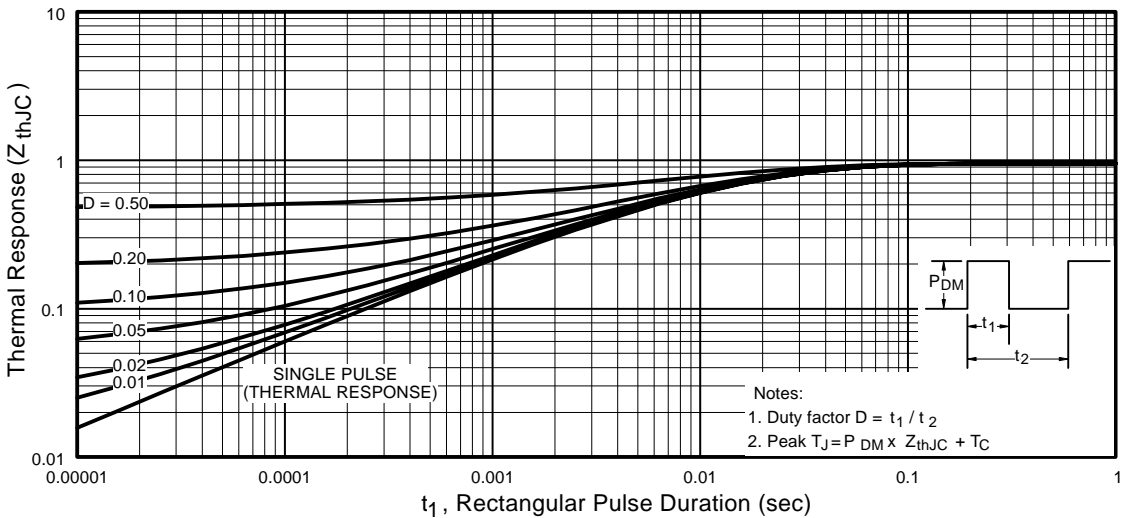

Fig 11. Maximum Effective Transient Thermal Impedance, Junction-to-Case
① Repetitive rating; pulse width limited by max. junction temperature. (See fig. 11)
② Starting $T_J = 25^\circ\text{C}, L = 1.7\text{mH}$